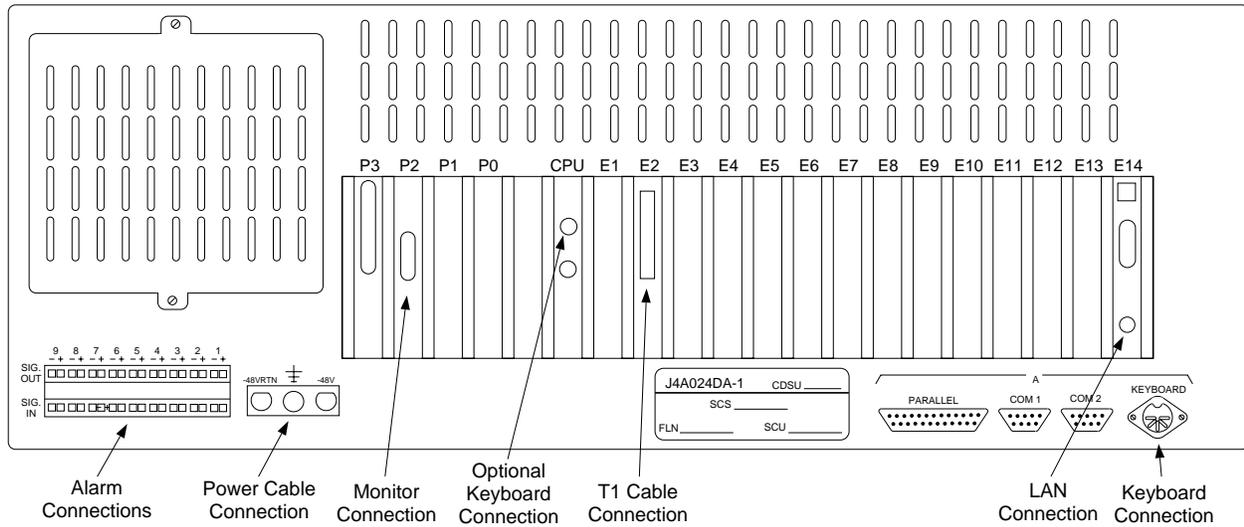

Figure 20. CDSU-II (Rear View)
- CDSU-II (Rear View) (Figure 20)